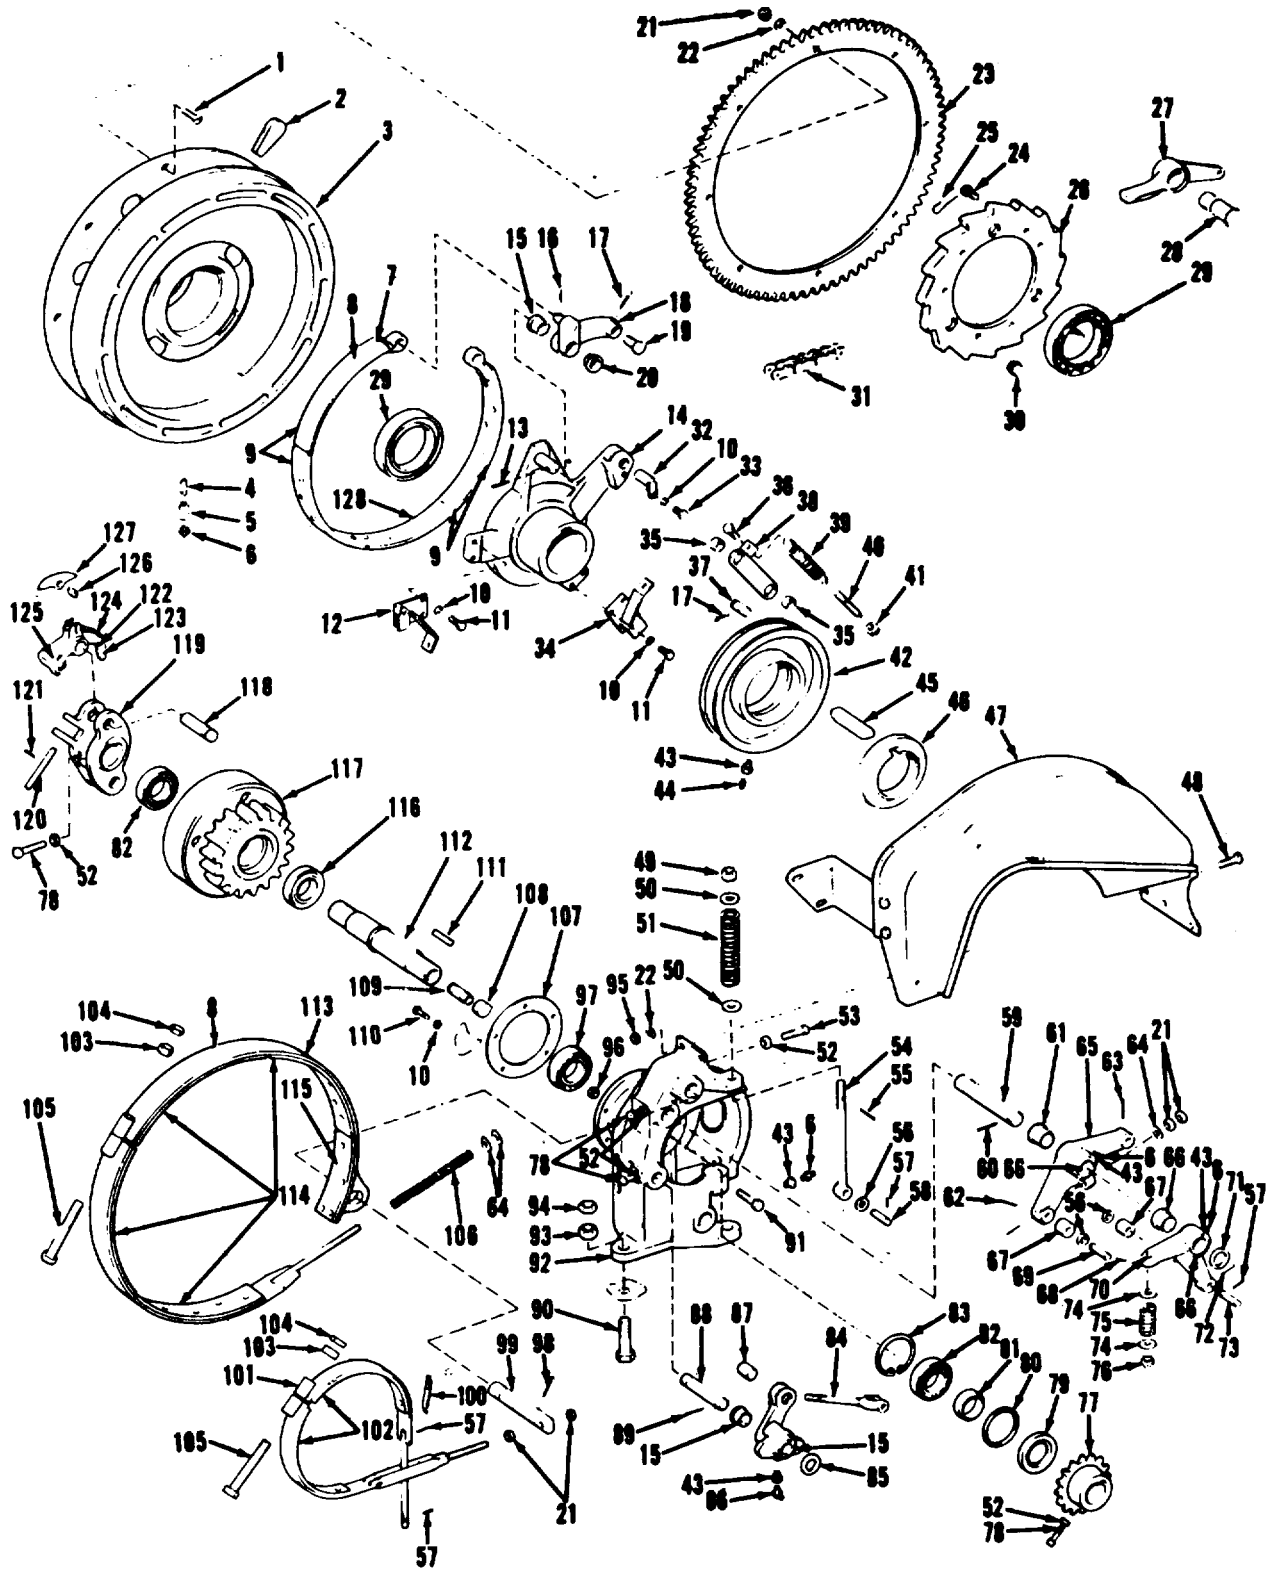

Figure 4-20. Independent boom hoist assembly, exploded view.
d. Disassembly. Refer to figure 4-20 and disassemble the independent boom hoist assembly in